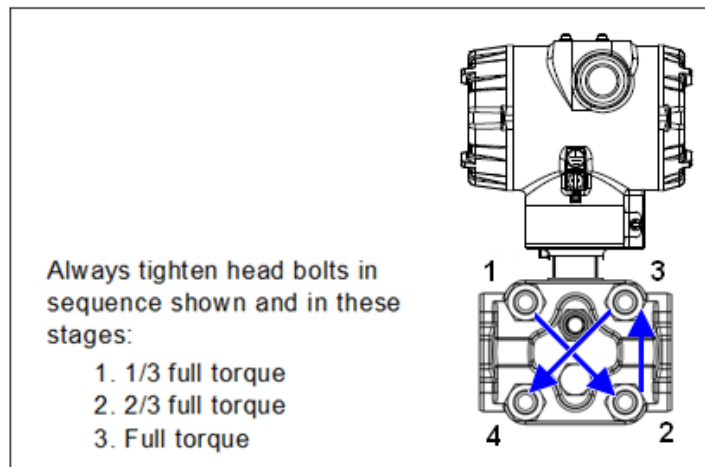

Figure 30 – Head Bolt Tightening Sequence
16. Use a torque wrench to gradually tighten nuts to torque rating in sequence shown in Figure 30. Tighten head bolts in stages of 1/3 full torque, 2/3 full torque, and then full torque.